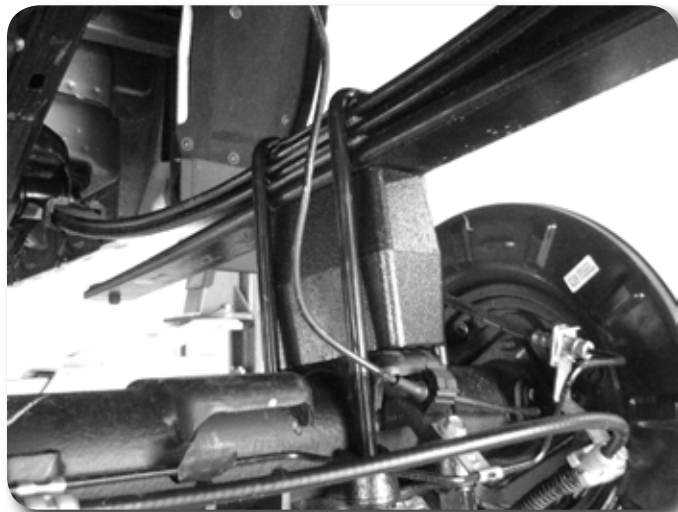

Figure 26
10. Using the support jack, raise the axle so that the axle, spring and block are all touching. Install the new provided u-bolts, nuts and washers allow with the factory u-bolt plate **Figure 26**. Snug u-bolts but do not tighten.